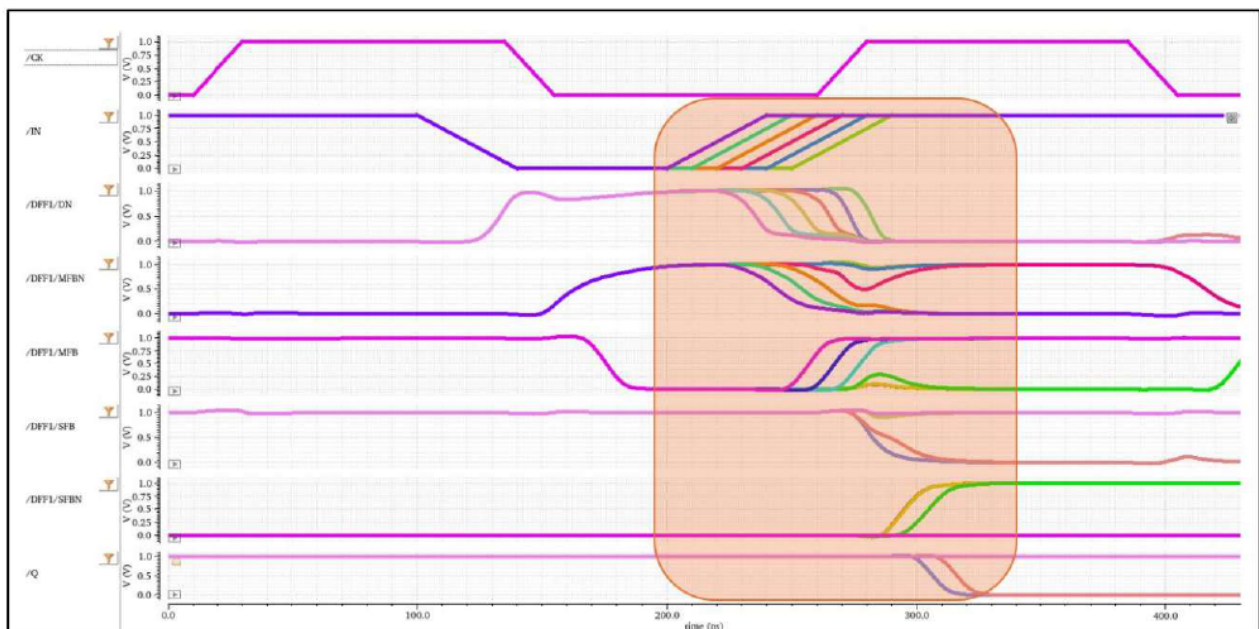

Figure 18. The waveform internal nodes of DFF
- Explain why the intrinsic hold time of a D flip-flop can be negative, based on the master-slave latch architecture and the associated timing waveforms. In your explanation, analyze the behavior of each internal node of the DFF, as shown in **Figure 18**.